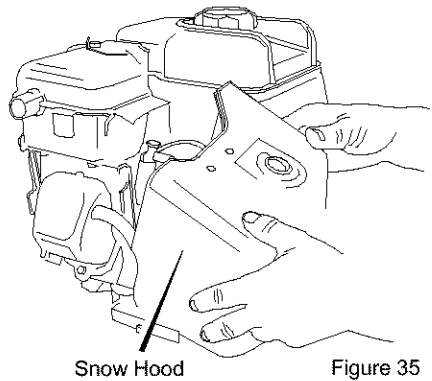

Figure 35
6. Mount the snow hood to the engine and secure with the four mounting screws (see Figure 35).